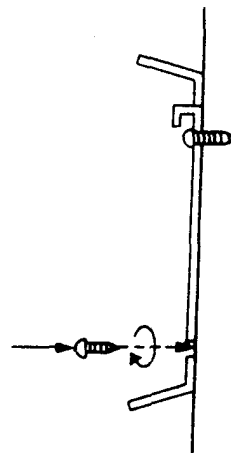

Figure 1-11 Securing the KSU to the Wall Mount Template
3. Using the other two provided screws, secure the KSU to the wall mount template by screwing the lower two openings located in the KSU base. (Refer to Figure 1-11 - Securing the KSU to the Wall Mount Template.)